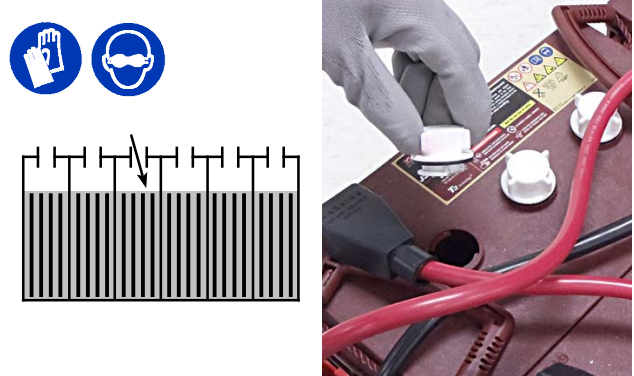

FIG. 109
- 1. Check the electrolyte level in all batteries (Figure 109). See BATTERIES.